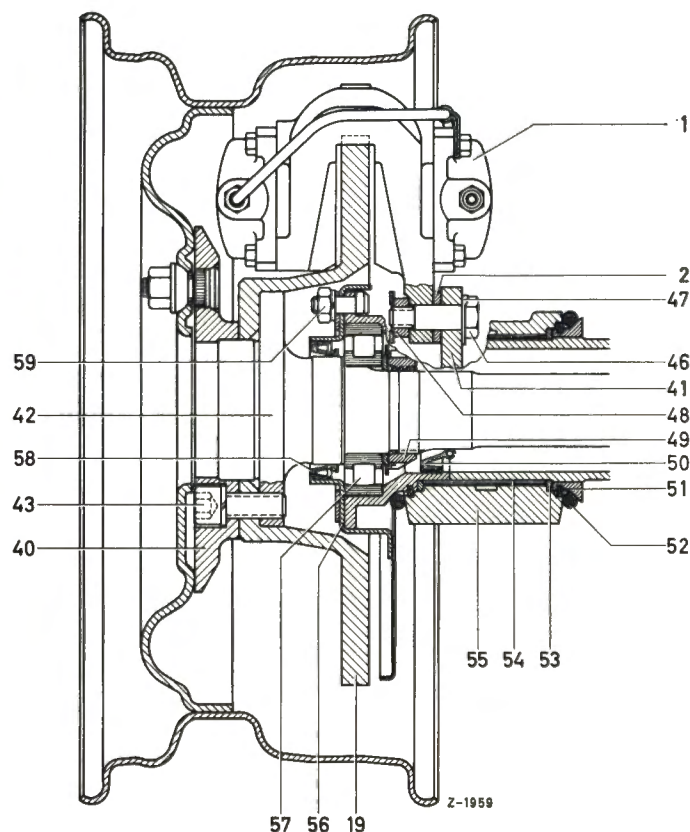

Fig. 42-7/25
4. Remove the brake caliper (1) paying attention to the shims (2) arranged between the bearing housing (41) and the caliper (Fig. 42-7/25).